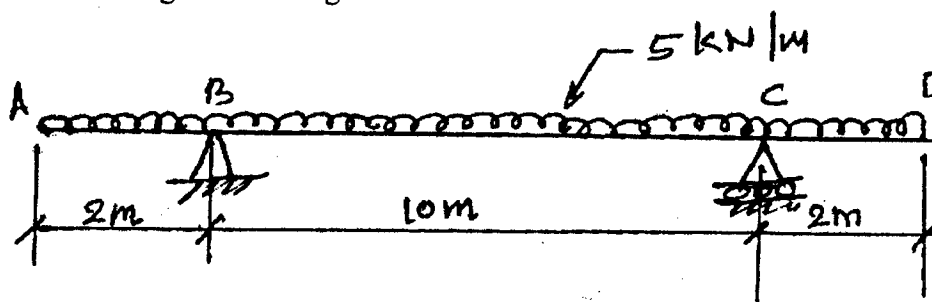

Fig.5(b)
- b. Draw shear force and bending moment diagrams for the loading pattern on the beam shown in Fig.5(b). Indicate where the inflexion and contra flexure points are located. Also locate the maximum bending with its magnitude. (14 Marks)